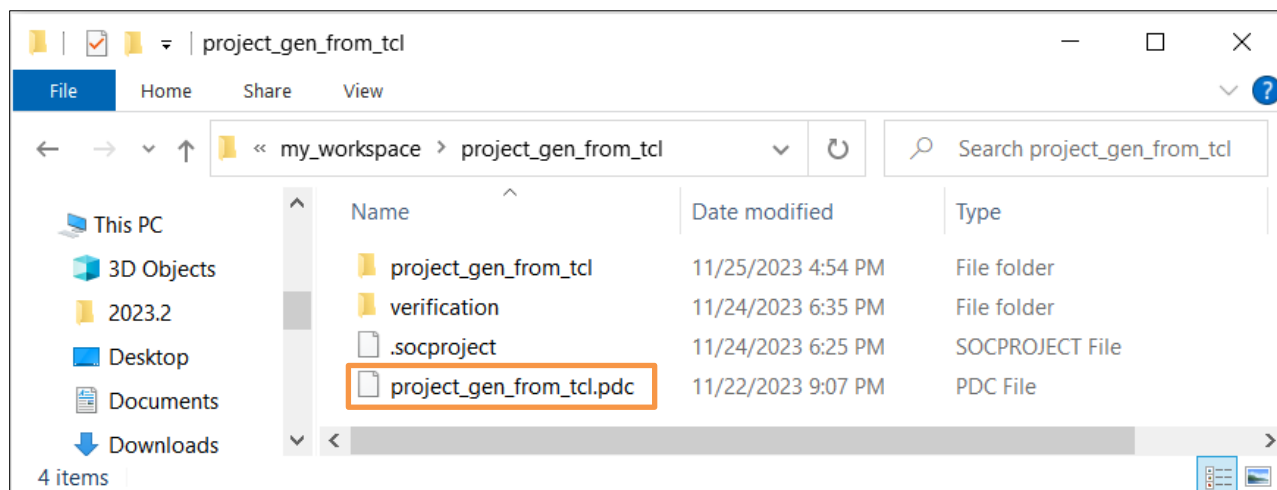

Figure 5.8. Rename Constraint File Copied from Source Project
- b. Rename the copied constraint file with the new project name, as shown in Figure 5.8.